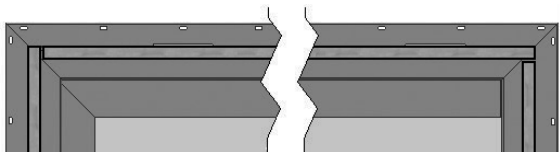

FIG. 3
- D) Wrap jamb extension around the door frame. (Fig. 3)